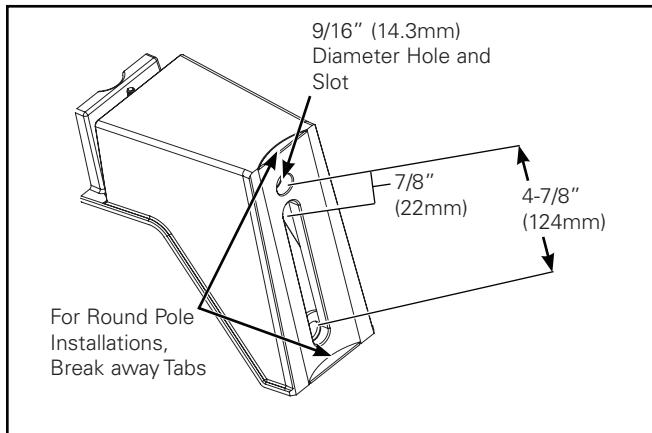
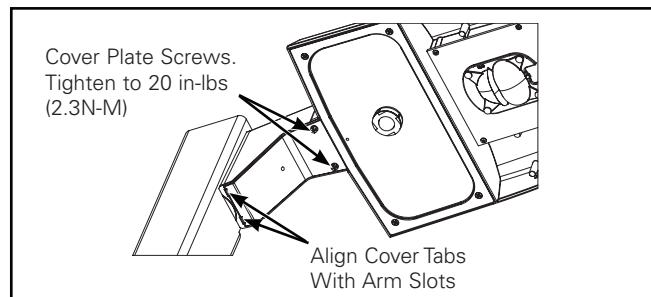

Figure 1.
Figure 5.
Pole Mount Arm (Figure 1. - Figure 5.)
1. Pole mounting arm is designed for a square or round pole. Round pole installation will require the mounting arm break away tabs to be removed. Grab break away tab with pliers and break-away the tab. (Figure 1.)
Note: Ensure the luminaire supply leads do not get pinched between cover and mounting arm. (Figure 5.)